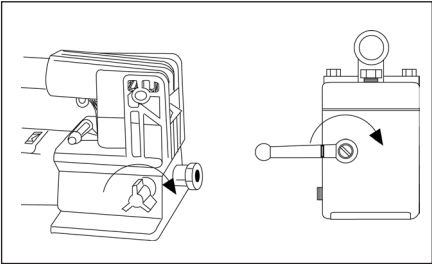

Figure 6
- 1. Close release valve by turning clockwise, as shown in Figure 6.